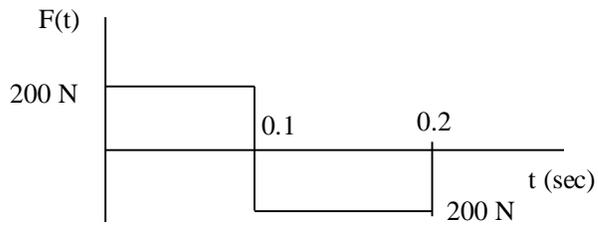

Fig.1
**Q.4 (a)** A single spring mass system has spring constant of 2000 N/m and mass of 20 kg. If it is loaded by a periodical load for which a single period is as shown in the Figure 1, derive the equation of the response using Fourier series. **07**